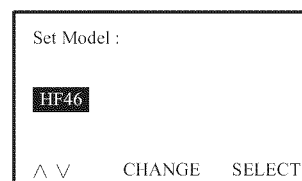

FIG. 65
3. Press Select once to move back to the Service Mode screen. Move black bar to Set Model and press Select. A model code shows in the display, see Fig. 65.